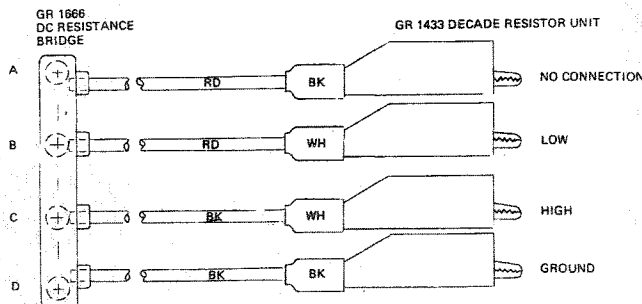

Figure 5-1. 1666/1433 Connections using Cable Assembly 1666-2200.
a. Connect a GR Type 1433-F, -G, or -X Decade Resistor to the 1666 Bridge as shown in Figure 5-1. Remove the 1433 ground link.